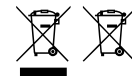

Fig. 1 Fig.2
4. the symbol (crossed-out wheeled bin – Fig.1) even if, shown on the product or on the packaging, indicates that the equipment must be disposed of separately at end-of-life;